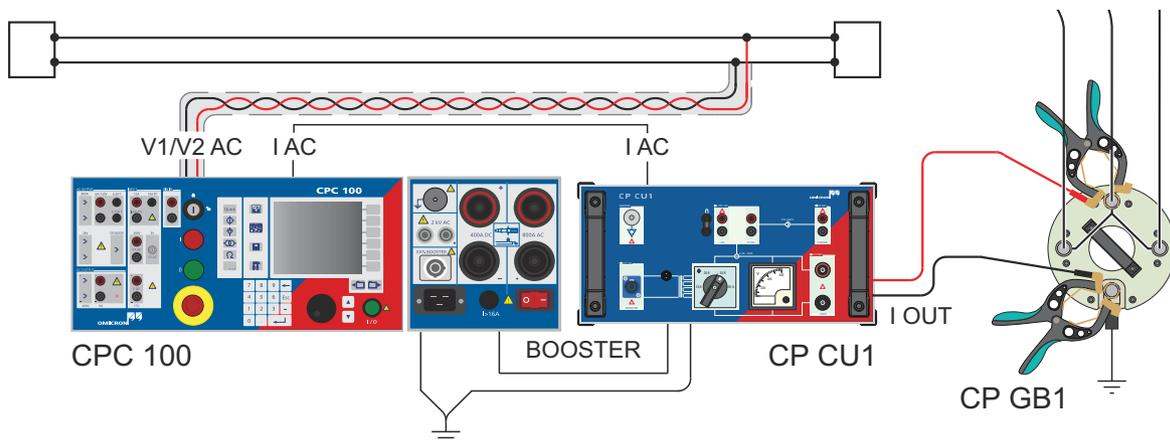

Figure 6-3: Coupling into signal cables measurement setup for the line-to-ground measurement
11. Reconnect the clamps at the *CP GB1* according to Figure 6-3 below.